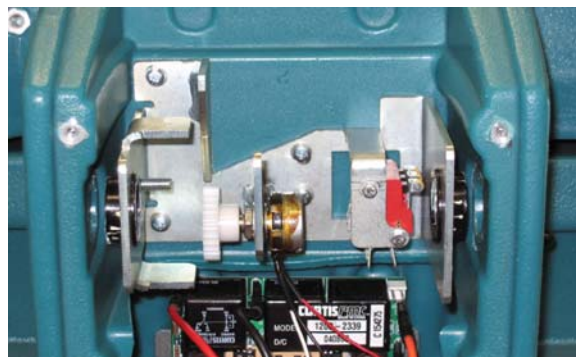

Fig. 9
10. Mount the new bracket assembly to the machine, using the screws and washers supplied in the kit. Only hand-tighten the screws at this point. The final position of the bracket will be determined at step 11e (Figure 9).